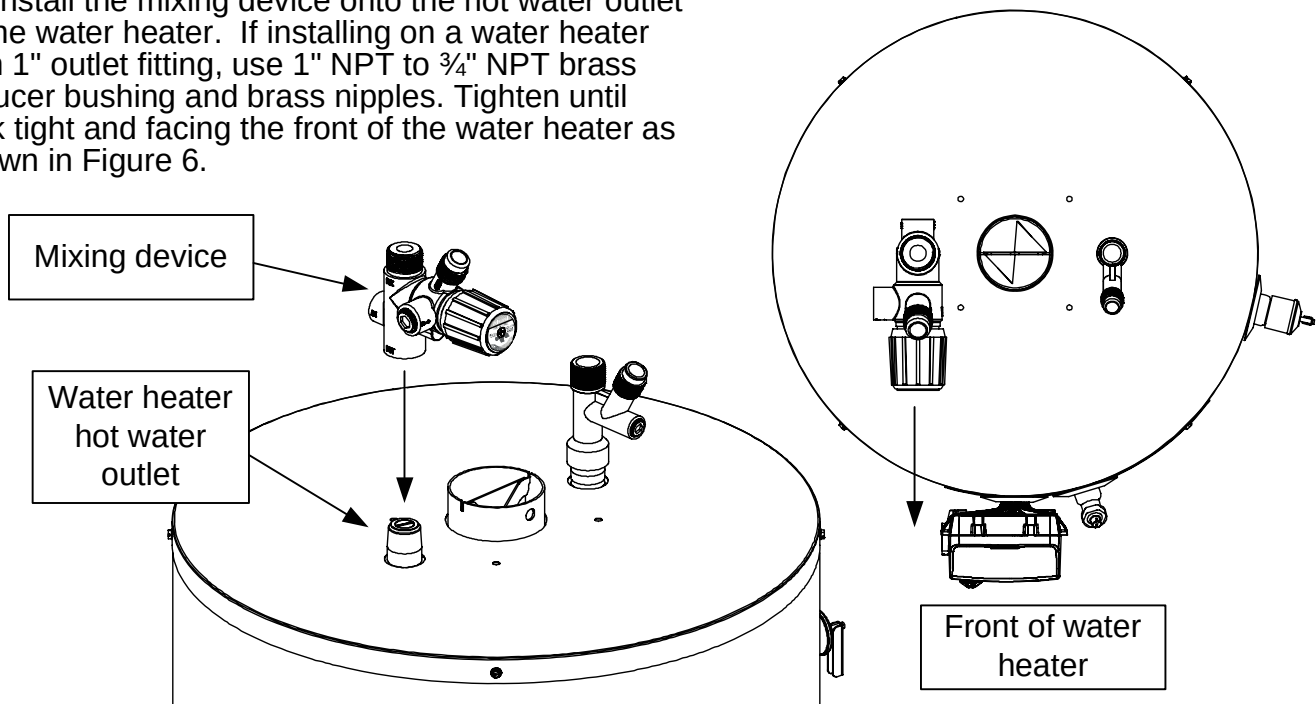

Figure 6
3. Install the mixing device onto the hot water outlet of the water heater. If installing on a water heater with 1" outlet fitting, use 1" NPT to ¾" NPT brass reducer bushing and brass nipples. Tighten until leak tight and facing the front of the water heater as shown in Figure 6.